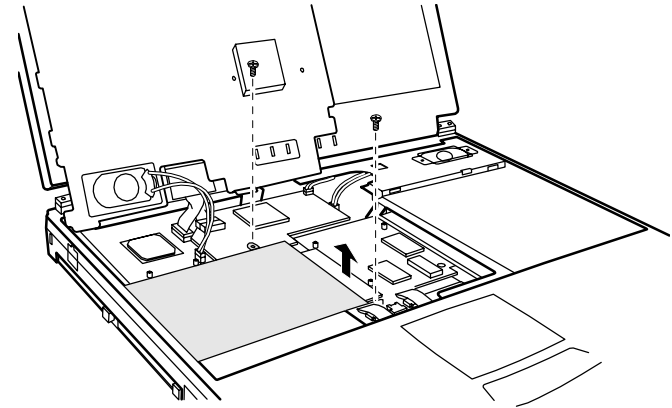

Figure 7-26. Removing the Hard Disk Drive
2. Plug the hard disk drive connector to the system board and secure the bracket in place with two screws. (Refer to Figure 7-26 )